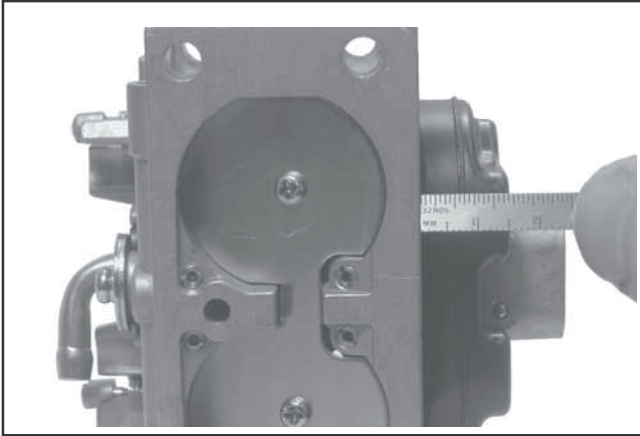

Figure 5-16. Checking Float Height.
8. The correct float height setting is **17 mm (0.669 in.) \pm 1.5 mm (0.059 in.)**, measured from the float bottom to the body of the carburetor. See Figure 5-16. Replace the float if the height is different than specified. **DO NOT** attempt to adjust by bending float tab.